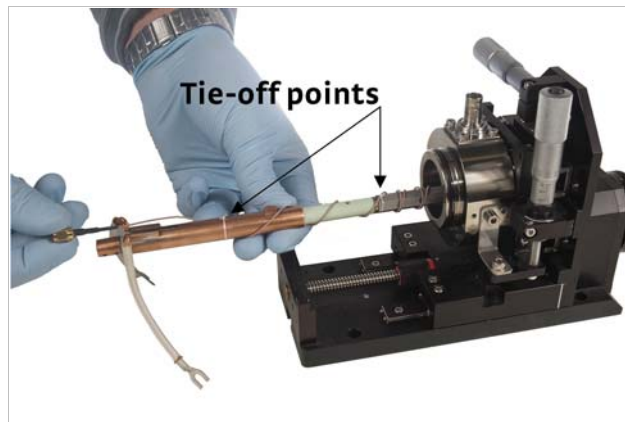

FIGURE 5-18 Tie-off points for the coaxial cable
6. Using unwaxed dental floss, tie the coaxial cable to the arm at the locations shown in FIGURE 5-18 to keep it from unraveling and to provide heat sinking during operation.